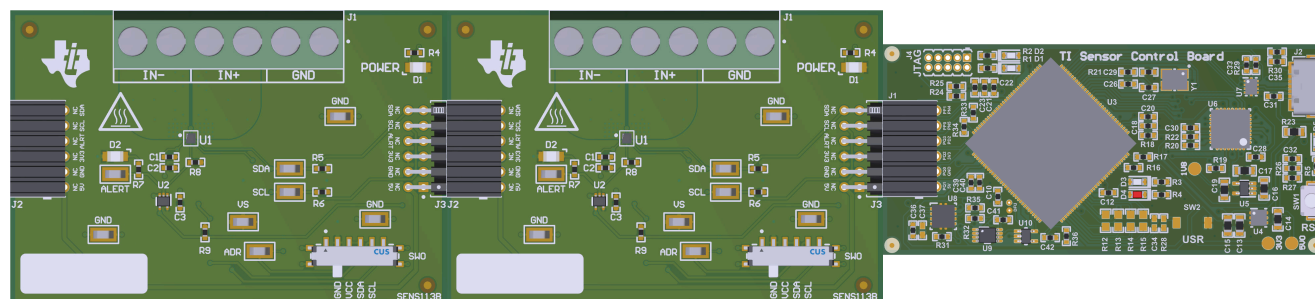

Figure 2-2. Multiple EVMs Connected to SCB Controller
- Refer to Figure 2-2 when connecting multiple EVMs of the same type together.
If using multiple EVMs, connect them as shown in Figure 2-2. Make sure to use a different address for each device. The GUI only supports one EVM and device type at a time; up to four EVMs total.